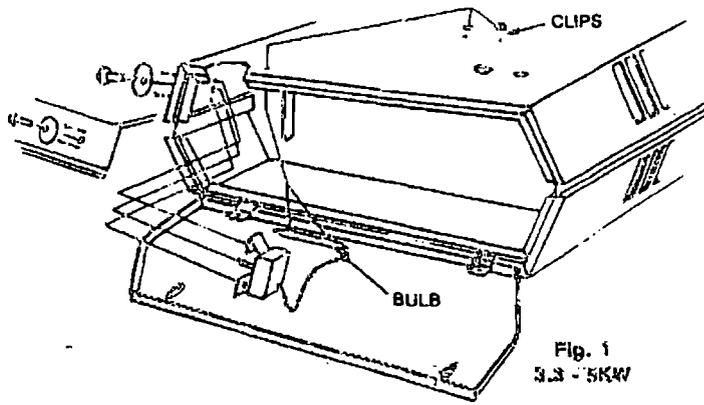

Fig. 1
5) Remove the three stat mounting knockouts from side of control compartment: 1) ⅝ & 2) ¾. Remove backing from label (supplied). Align label with thermostat shaft hole and position as in Fig. 1. Press label on heater side as shown.
6) Note orientation of leg on thermostat bracket (see Fig. 1). Position only as shown. Install thermostat with the 2 No. 3 mounting screws provided.